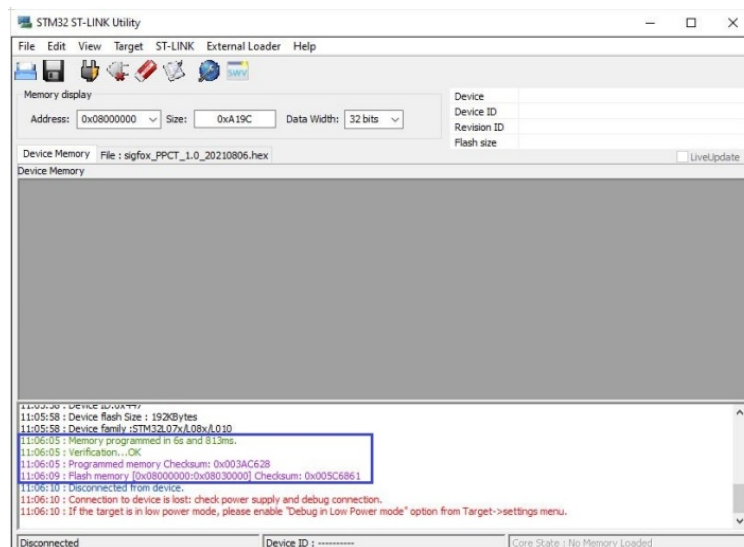

Figure 6. Successfully loading firmware
- ✓ When the firmware is successfully loaded, the software will display information with figure 6